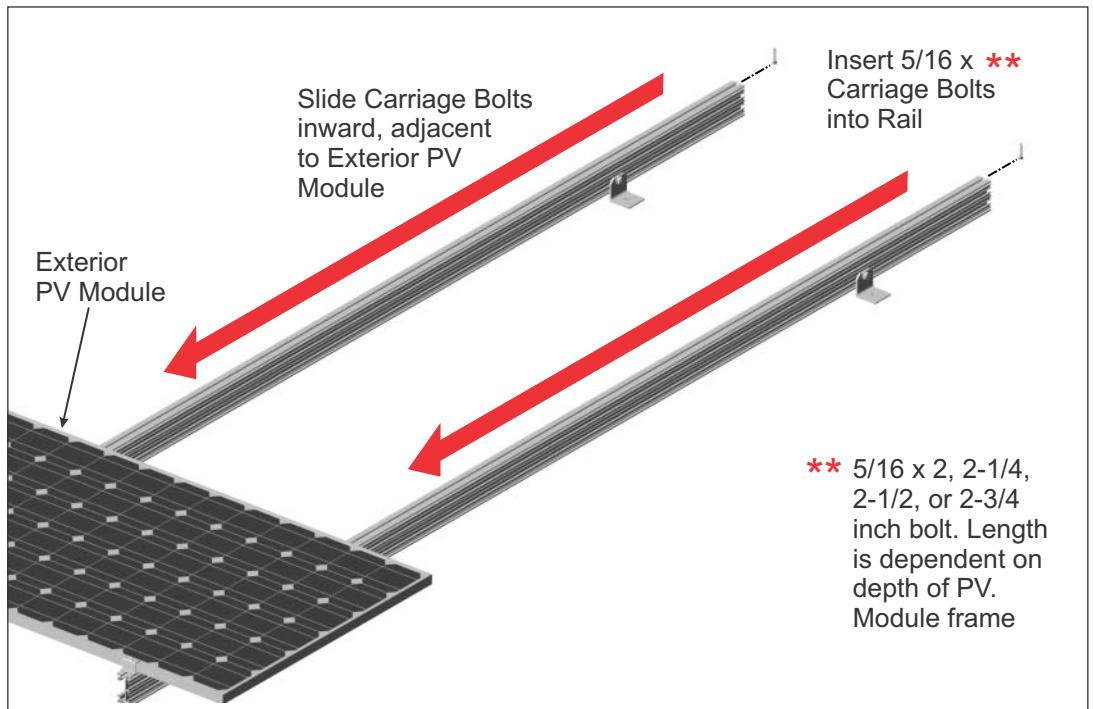

Figure 4-4: Inserting Mid Clamp Hardware into Power Rail
- C. Before placing the interior Module onto the Power Rails, first insert 5/16" x 2, 2-1/4, 2-1/2, or 2-3/4" carriage bolts (bolt length is dependent on depth of Module frame) into the Module Rail, sliding the bolts inward next to the previously installed exterior Module. (See Figure 4-4)